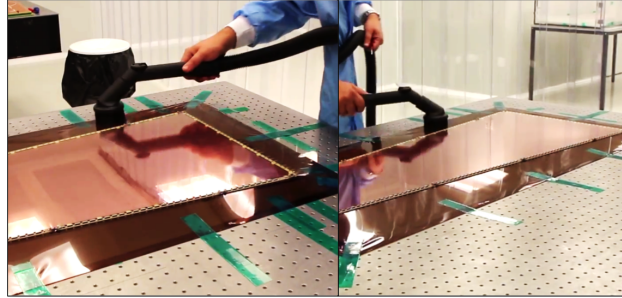

Figure 86: Cleaning the GEM stack with the vacuum cleaner.
Step 1: Clean the GEM stack with the vacuum cleaner, focusing on the edges of the internal frame and in the holes of the Plexiglas cover (Fig. 86).